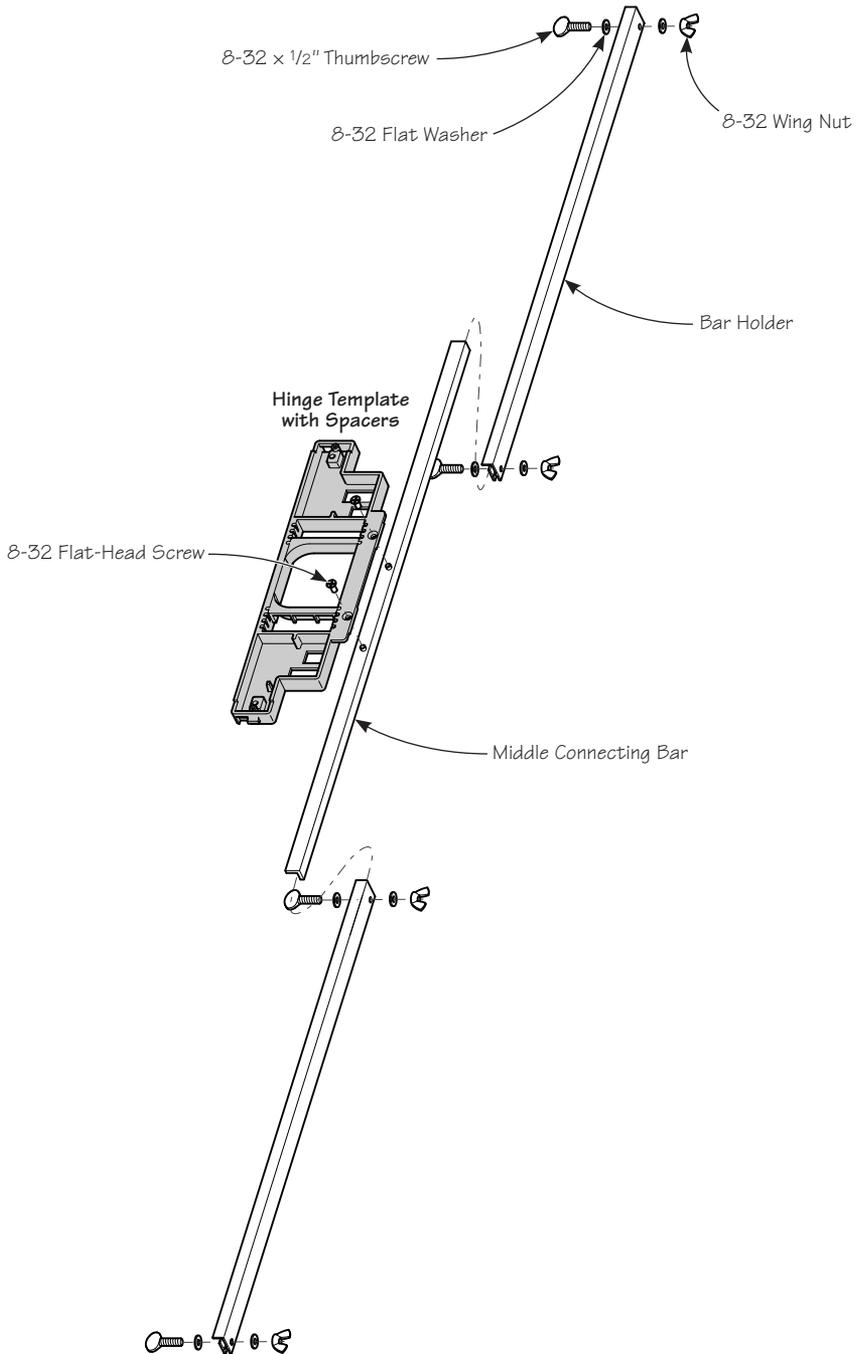

Figure 5: Joining the connecting bar onto the bar holders.
4. Slide the exposed end of each connecting bar into each end of the bar holders. Secure with the wing nut/thumbscrew/washers just enough for the parts to stay connected, but still loose enough to be adjusted. (See **Figure 5**.)